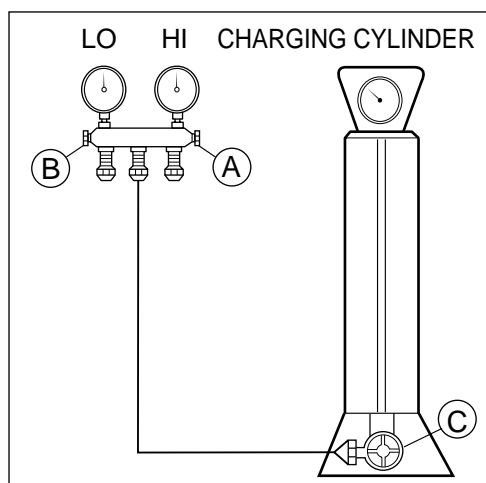

Figure 21B-Charging
- 7-2. Connect the charging cylinder as shown in figure 21B. With valve C open, discharge the hose at the manifold connection.